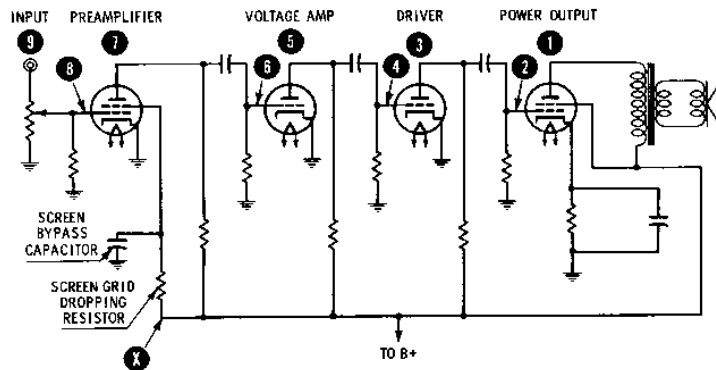
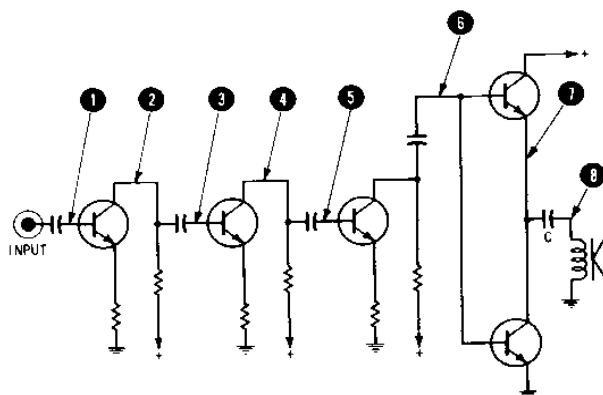

Fig. 4-1. Sequence of testing amplifiers.
Fig. 4-5. Basic circuit of transistor amplifier showing the signal path.
Fig. 4-1 shows a partial schematic of a typical amplifier. The idea is to check the signal path by listening for pops as the voltages are being checked. This path starts at the input and goes all the way through in a plain series circuit. Each time the signal passes through an amplifier stage, it gets louder (more amplification). Anything that breaks the chain will stop the signal right there. You can see the test method: Start at the output and work back toward the input. The numbers in Fig. 4-1 show the correct sequence. For this test it is assumed that the power supply has been checked and the right B+ voltage found at the filter output (X). If the output of the power supply is correct, the power supply itself must be all right, and the trouble must be somewhere in one of the amplifier circuits.
So, we can use exactly the same tests as before. Fig. 4-5 shows a basic circuit of a typical transistor amplifier. (A lot of components have been left out, but this is the complete *signal path*.) You can make your tests in the same way as before—either "back to front" as shown in Fig. 4-1, or you can use the signal-tracing method shown here.
Refer to Fig. 4-5. Feed in a known input signal, say 400 Hz at about 50 millivolts. With a scope, check this level at Point 1, then at Point 2, and so on, going from base to collector of each stage. Normally, you'll see a good deal of voltage gain from input to output of
Transistors can short internally, also. In the basic circuit of Fig. 4-5, an emitter-collector short will probably burn up the emitter resistor, due to the high fault-currents. In circuits with higher resistance, you'll read the same voltage on the base as you have on the collector or the same voltage on emitter and collector. To make sure, take the transistor out of the circuit and make ohmmeter tests or use a transistor tester.